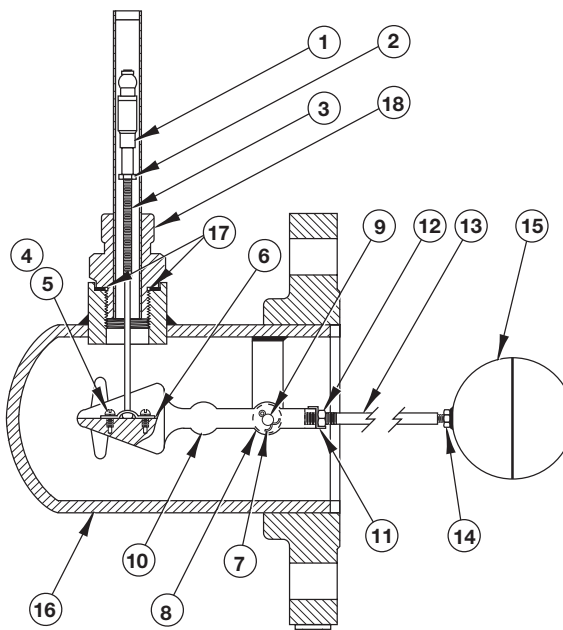

Figure 32
3.3.1.2 Models P68-2H3A, P68-2H4A and P68-2H5A 4" Flanged (See Figure 32)